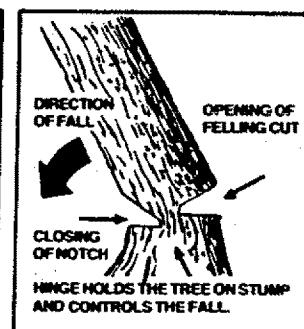

Figure 20
- b. Make the felling cut. Figure 20.
- c. Leave enough uncut wood between the felling cut and the notch to form a hinge. Figure 20.